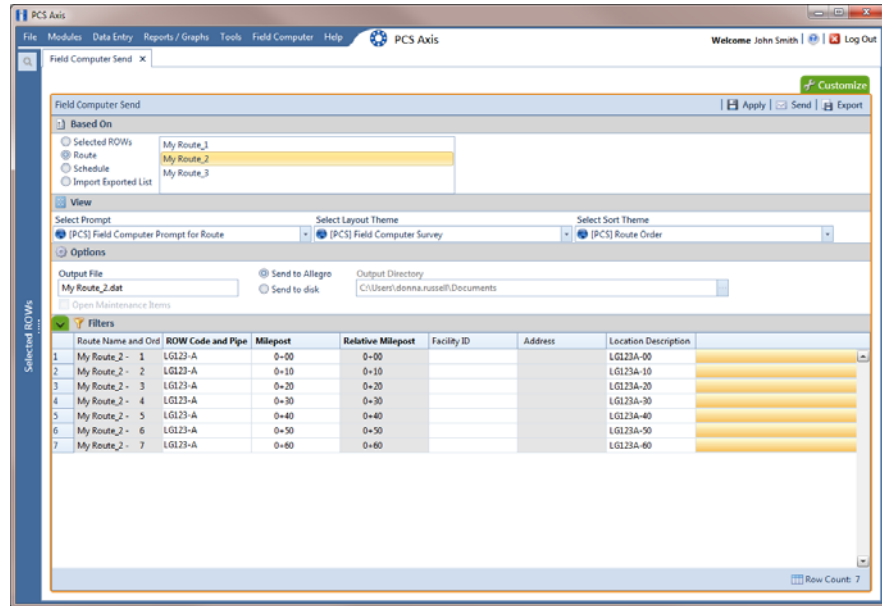

Figure 13-25. Field Computer Send Based on Route
- a Click the **Route** option and then select a route in the selection box (Figure 13-25, page 586).